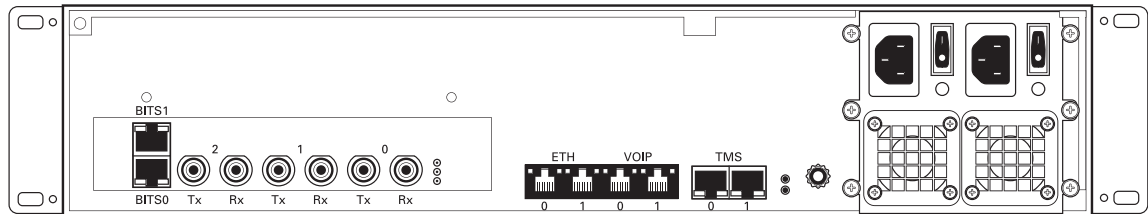

Figure 4.4
A TMG7800-DS3 with 3 sets of BNC connectors enables the connection to DS3 lines. See figure 4.4 on page 33.
1. Start with the Dual BNC port pair #0 (right-most) as shown in figure 4.4 on page 33. Connect one pair of BNC cables between this port and the DS3 line.